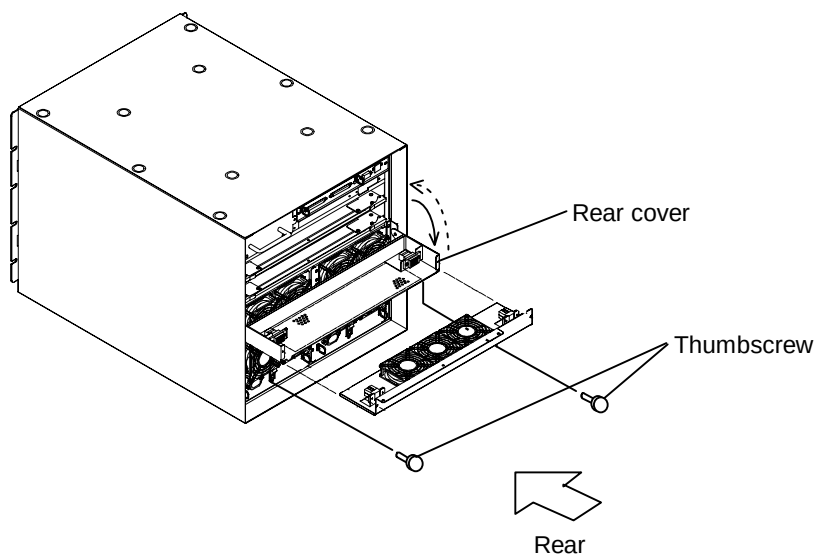

Figure 3.2.1 Opening/Closing the Rear Cover
(1) Removing the rear cover. (See Figure 3.2.1.)
① Remove the 2 thumbscrews and open the rear cover.
(2) Attaching the rear cover. (See Figure 3.2.1.)
① Attach the rear cover in the reversed order as (1).